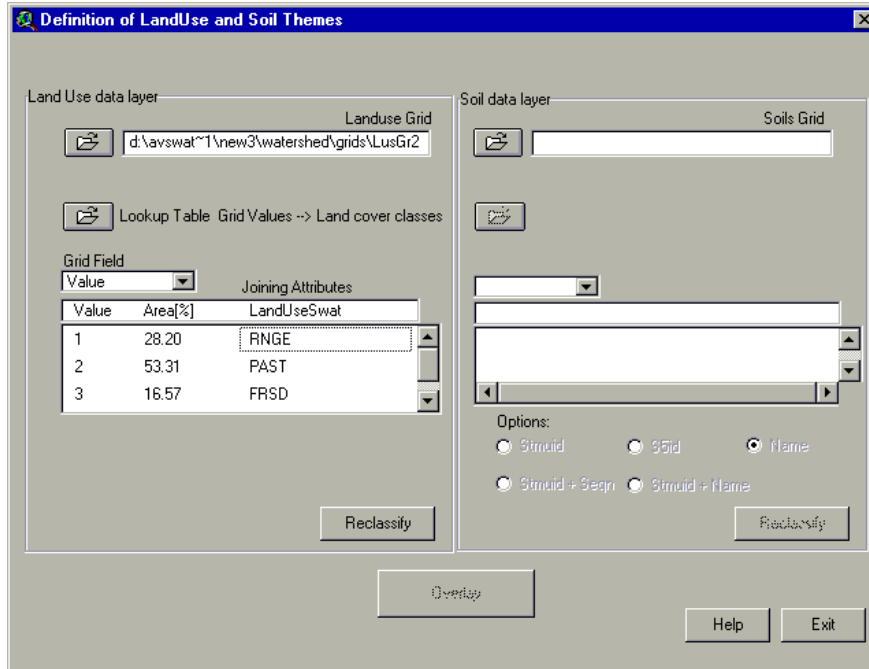

Figure 6.24
- vi. The interface will insert LanduseSWAT codes from the table into the list box (Figure 6.24).